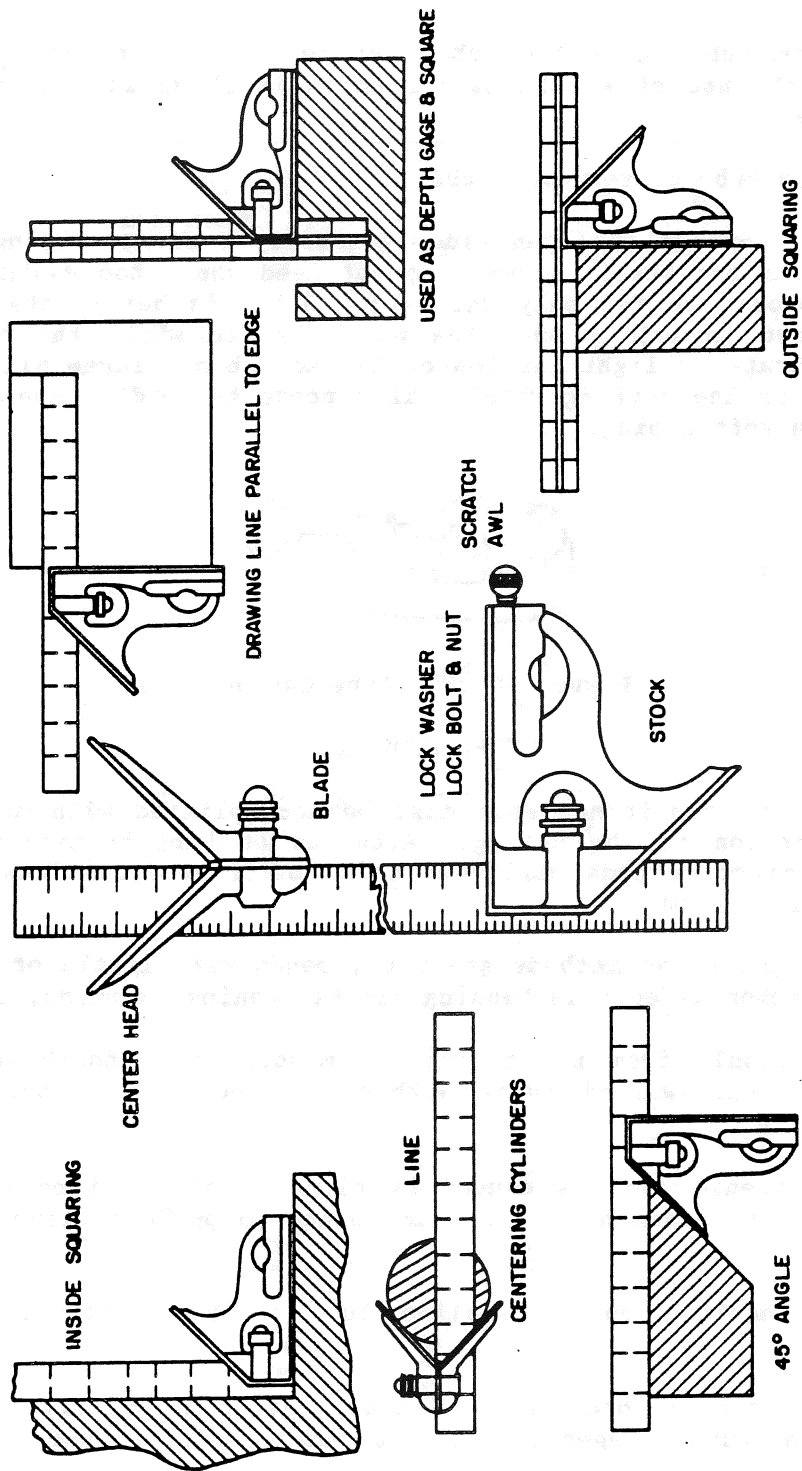

Figure 10.37. Uses for Combination Squares
4. Common uses for the combination square are shown in Figure 10.37.